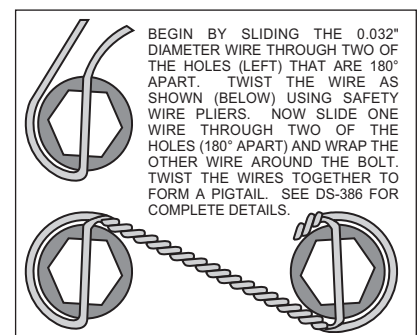

Figure 4. Safety Wire Diagram
- With the slot pointing upward and the mounting ears pointing towards the rear of the vehicle, install the caliper mounting bracket (1) to the housing flange using the stock Original Equipment Manufacturer (OEM) bolts and nuts. Stock OEM hex nuts that retain the bracket (1) should be on the wheel side of the bracket. Apply red *Loctite*® 271 to the stock OEM bolt threads and torque to OEM specifications. **NOTE:** Some brackets act as the bearing retainers, while others help locate the bearing in the axle housing flange. If the stock bearing plates are still on the axle, the caliper mounting brackets (1) should be located between the axle housing flange and the bearing retainer plate. Make sure the heads of the caliper mounting bracket insert nuts are FACING OUTWARD TOWARDS THE WHEEL.
- Bolt the hat (2) to the rotor (3) using washers (4) and bolts (5). Torque bolts (5) to 180 in-lb. Safety wire bolts (5) using standard 0.032 inch diameter stainless steel safety wire as shown in Figure 4. Please refer to Wilwood's data sheet DS-386 (available at www.wilwood.com/Pdf/DataSheets/ds386.pdf) for complete safety wire installation instructions.
- Align the correct hole pattern in the hat (2) with the stud pattern on the axle flange. **NOTE:** Some OEM and after market axles come with stud sizes larger than 0.50" diameter. Verify stud size and have a qualified machine shop drill the hats to the correct size. Slide the hat/rotor assembly (2 and 3) over the wheel studs and against the axle flange face.